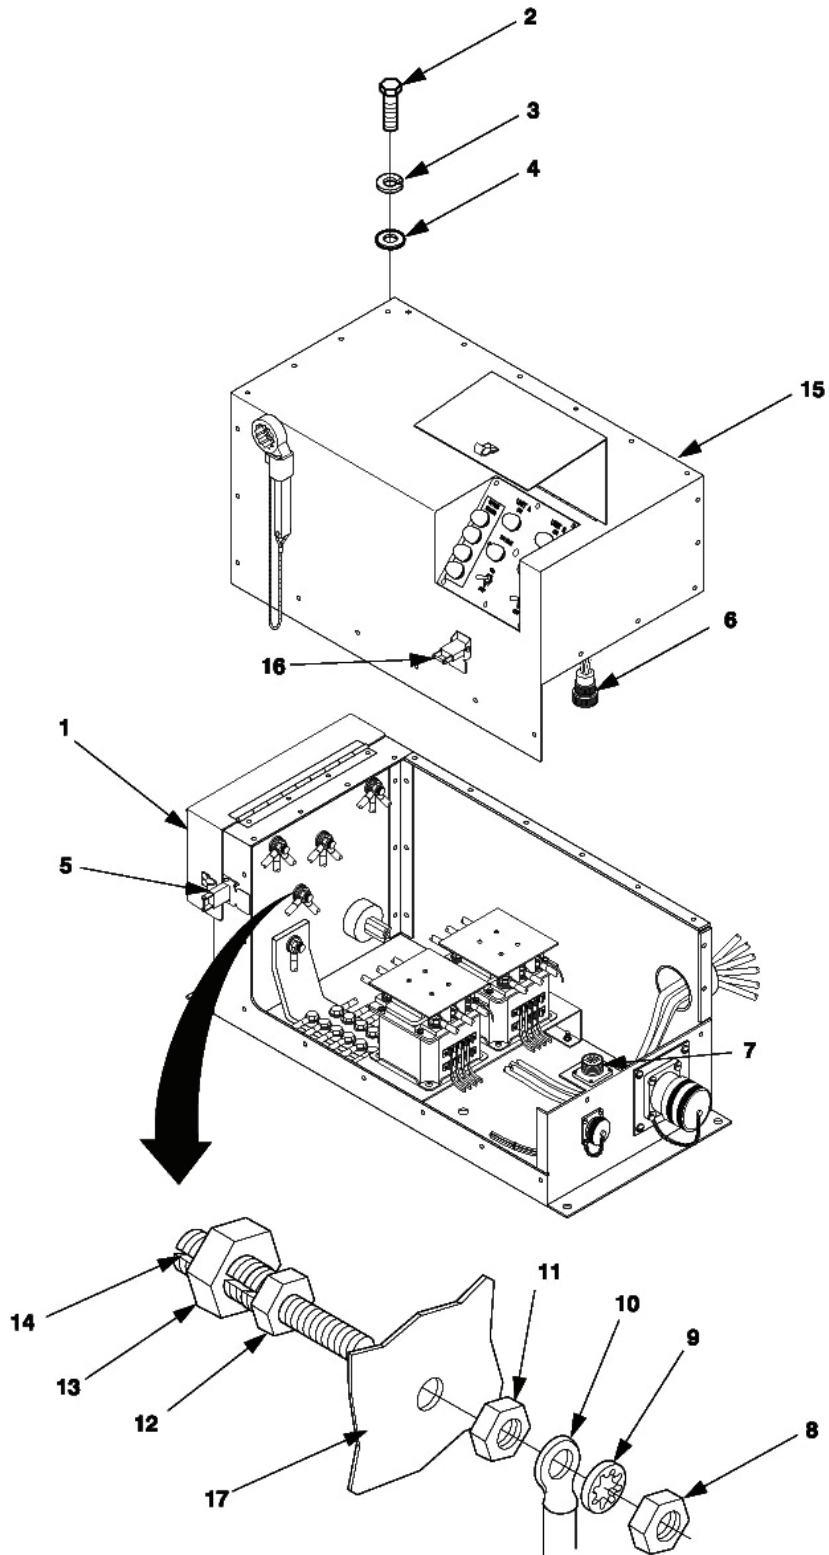
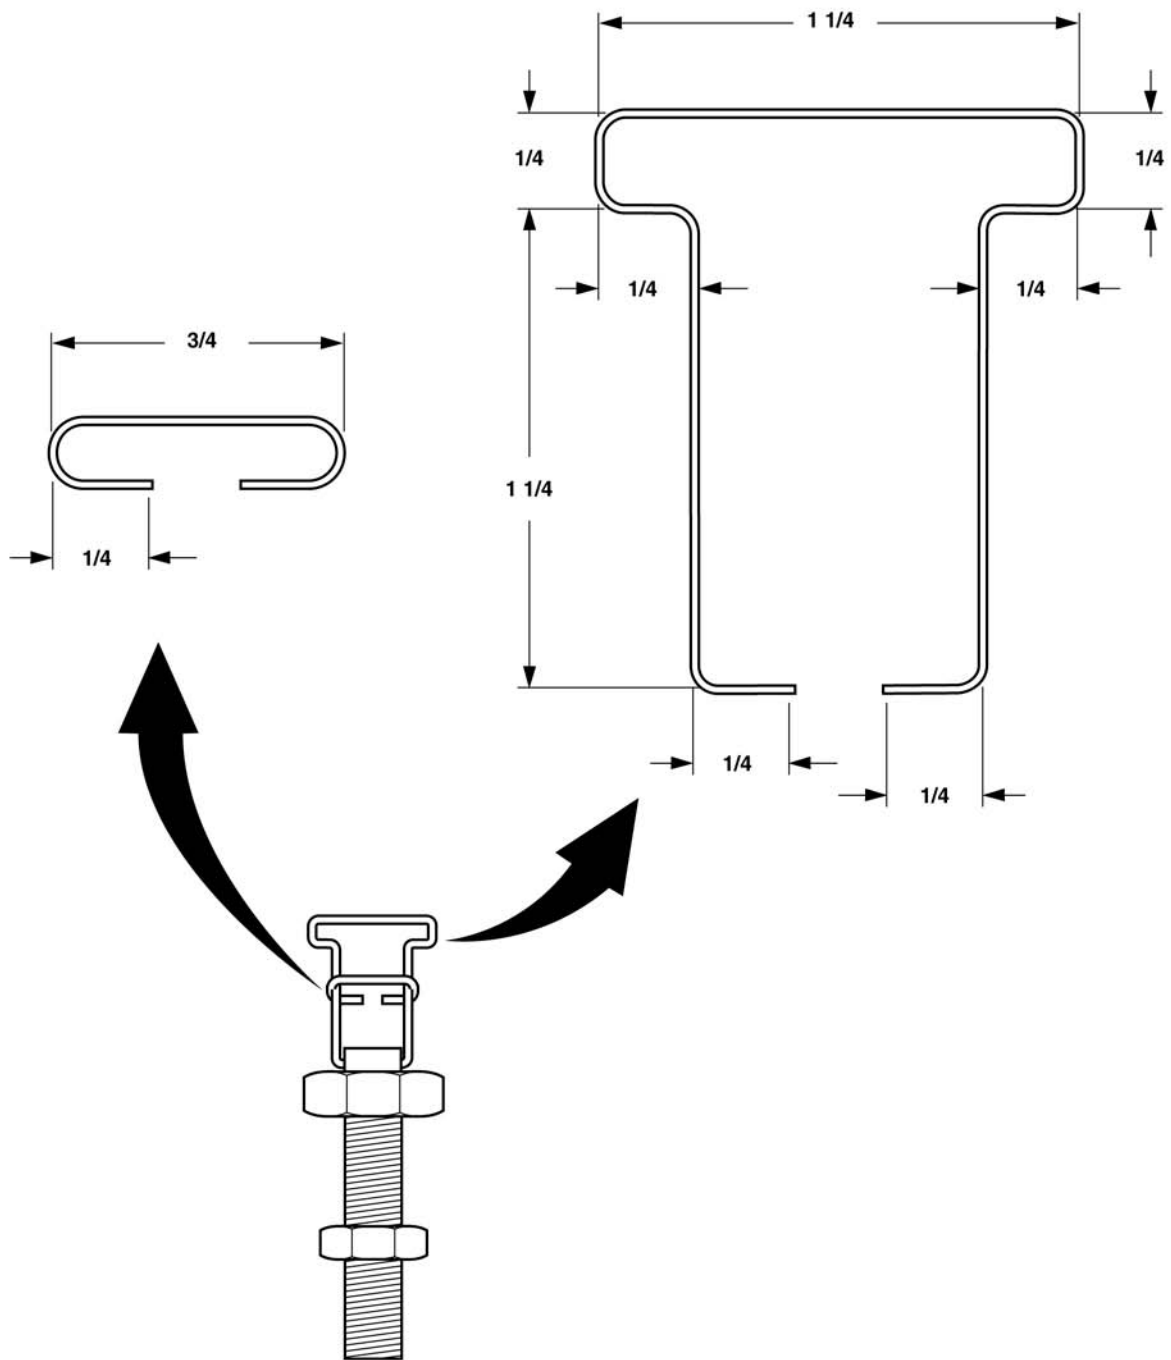

Figure 4-15.1. Switch Box Load Terminal Maintenance (A Model)
Figure 4-16. Switch Box Load Terminal Repair (A, B, & C Models)
1. Release clamping catch (5, figure 4-15.1) and open load terminal door (1).
2. Remove cap screws (2), lock washers (3), and flat washers (4). Discard lock washers (3).
3. Make sure nut (13) is installed on load terminal (14).
4. Fabricate and install terminal clip in accordance with figure 4-16.
5. Close load terminal door (1, figure 4-15.1) and secure with clamping catch (5).
1. Release clamping catch (3) and open load terminal door (1).
3. Make sure nut (8) is installed on terminal load (9).